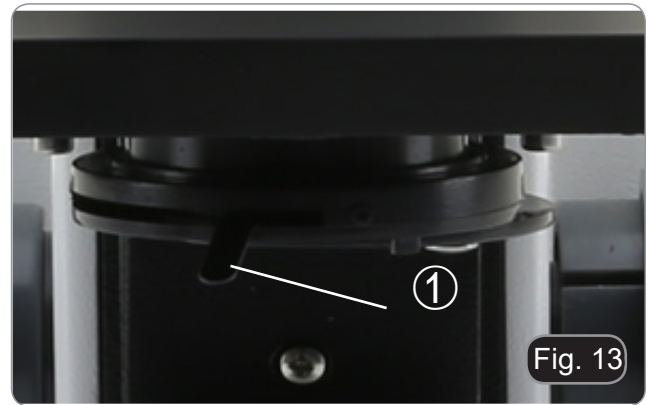

Fig. 13
The Numerical Aperture (N.A.) value of the aperture diaphragm affects the image contrast. Increasing or reducing this value one can vary resolution, contrast and depth of focus of the image. Move the diaphragm lever ① (Fig. 13) toward left or right to decrease or increase the N.A. value.